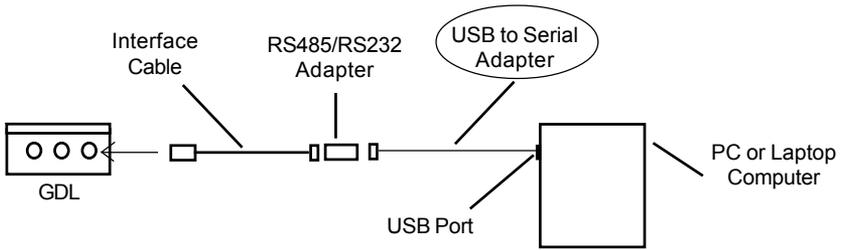

Figure 15: Connection using a USB to Serial Adapter
- Connect to the GDL (Figure 15).